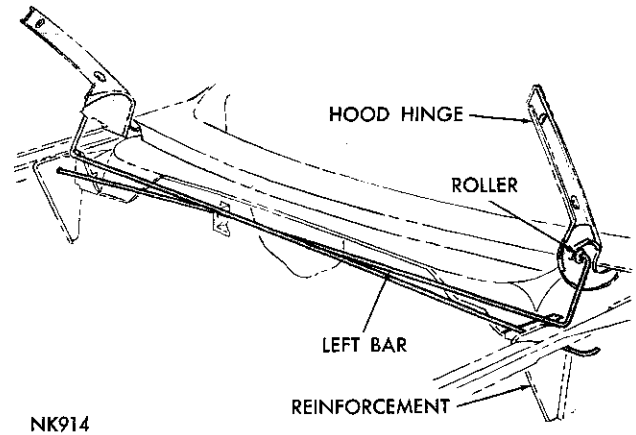

Fig. 47—Hood Hinge Torsion Bars
(1) Remove the hood assembly.
(2) Disengage the right hand torsion bar roller (Fig. 47) from its seat on the hood hinge by forcing the roller end of the bar to the rear and raising the hood hinge fully.
(3) Disengage the left hand torsion bar roller from the hood hinge.